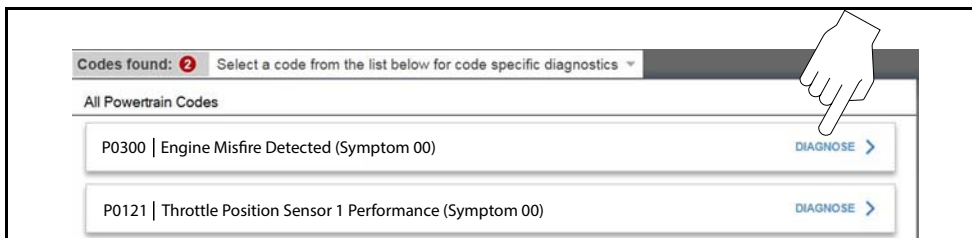

Figure 2-5 Intelligent Diagnostics - Choose P0300
6. The code results screen displays, select P0300 to continue (Figure 2-5).